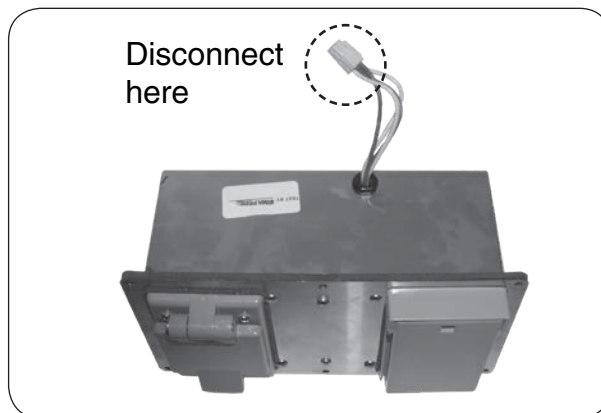

Fig. 40-2 Slightly pull out box and disconnect wire harness
3. Slightly pull out the box to expose the wiring, and disconnect the wire harness (see Fig. 40-2). Completely remove the box from the grill for ease of fuse replacement.